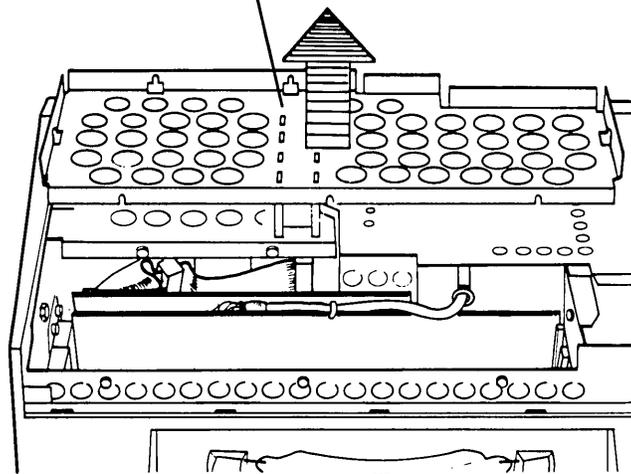

Figure 5-5. Card Cage Access Plate.
Loosen (DO NOT REMOVE) the six (6) Phillips screws and the one (1) 1/4" nut which secure the card cage access plate (see Figure 5-5).